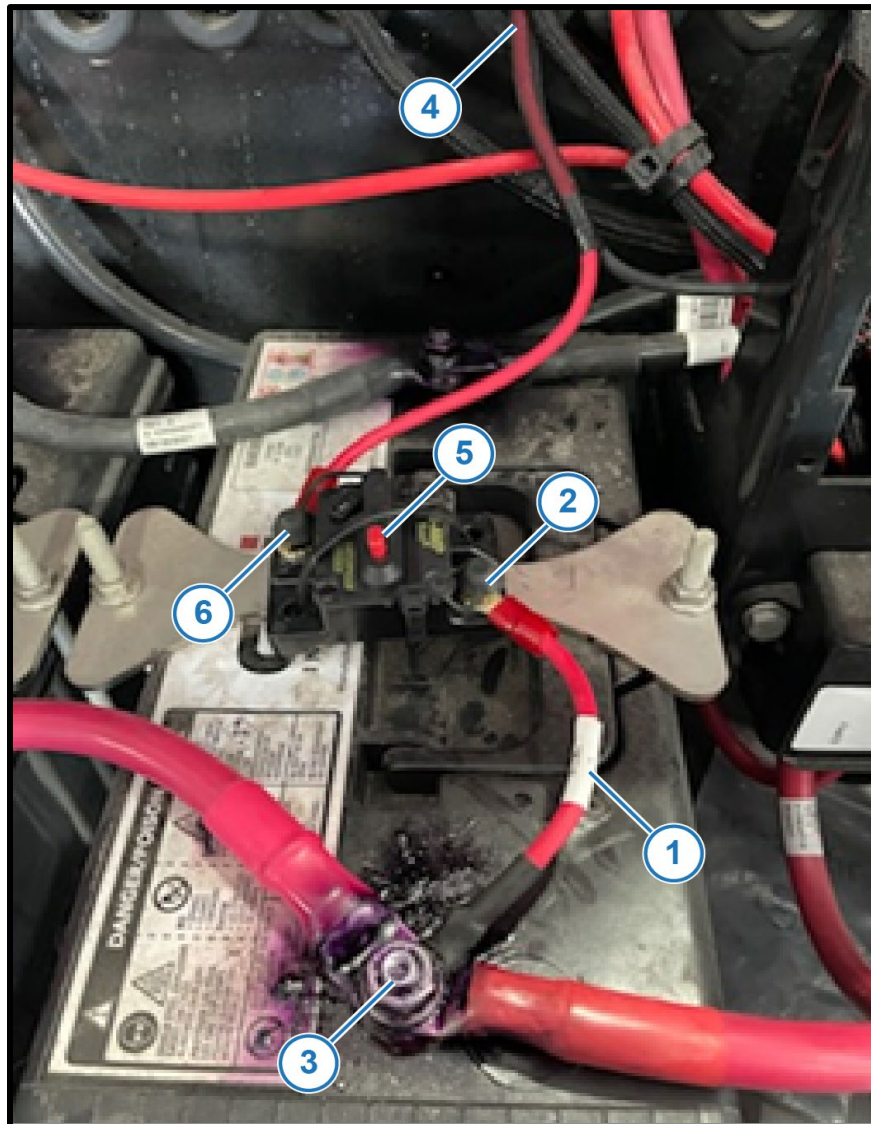

Figure 8 — Battery Box
14. *Figure 8:* Cut a short length (4" to 6") of wire (1) from positive power harness cable and cap one end with ¼" ring terminal (2) included to fit supplied circuit breaker and the other end with a ring terminal correctly sized for positive battery lug (3).
15. Route Envelop Hub positive power harness cable through grommeted hole in battery box (4).
16. Secure circuit breaker appropriately in battery area. Ensure it is open prior to installation by pressing red button on top (5).
18. Attach ring terminal to the breaker lug labeled AUX (6).
19. Attach short length of wire trimmed from the positive power harness cable earlier to breaker lug labeled BAT (2). Attach the other end to positive battery lug (3).